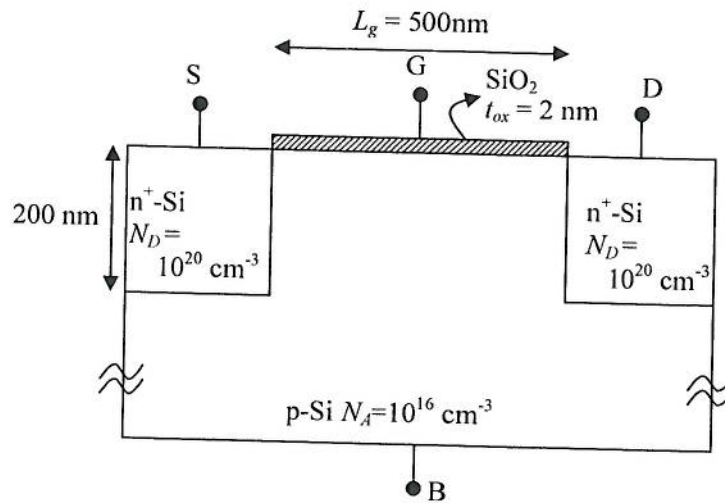

Figure 2.1: Cross section of a MOSFET. The gate width is $W_g = 1 \mu\text{m}$. S, D, G, B is respectively source, drain, gate and bulk contact.
2. The geometrical and doping parameters of a simple MOSFET are given in figure 2.1. The gate is in Aluminium with a workfunction $\phi_{Al} = 4.08$ eV. The temperature $T = 300$ K.
- Calculate the threshold voltage V_{th} for the MOSFET given in figure 2.1 when no voltage is applied to the drain. [4]